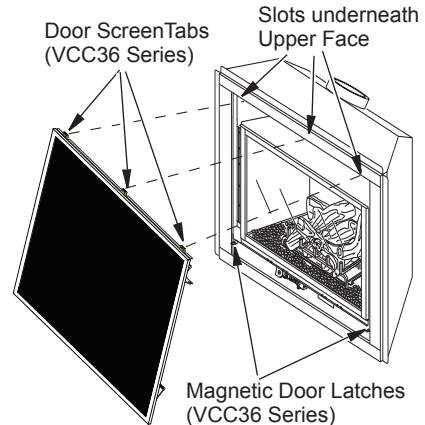

Figure 37 - Removing/Replacing Screen Door Assembly (VCC36 Series)
8. Replace screen door assembly, see removing screen door assembly (see Figure 37 page 24, for VCC36 series).